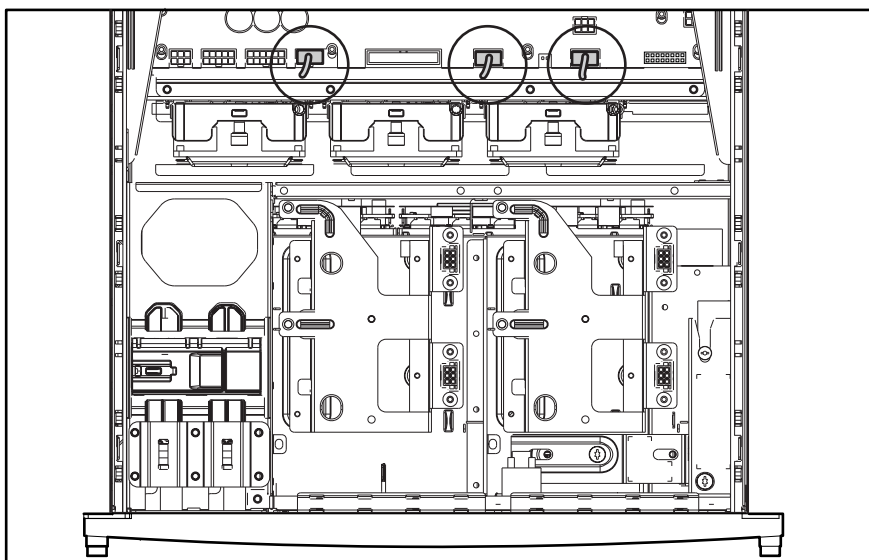

Figure 2-25. Power cables for drive fans
7. Power cables for drive fans. See Figure 2-25.